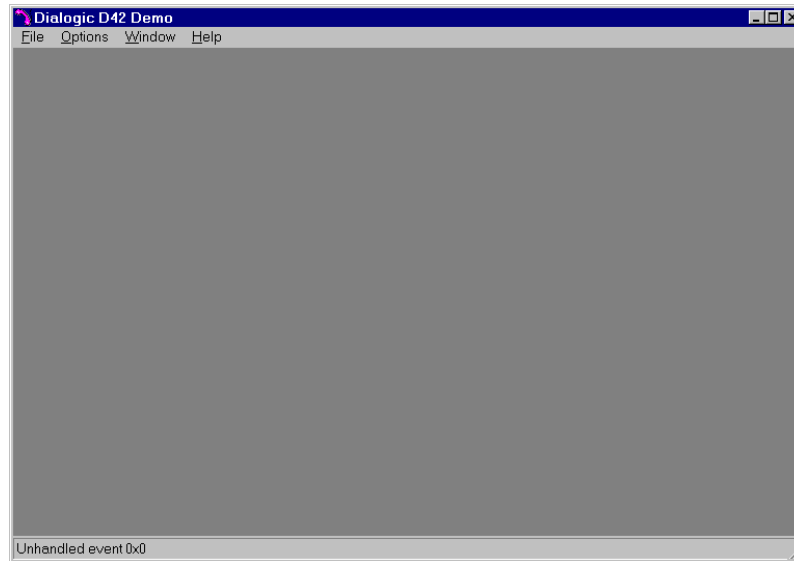

Figure 18. Dialogic D42 Demo Window
3. The *Dialogic D/42 Demo* window opens, as seen in *Figure 18*.